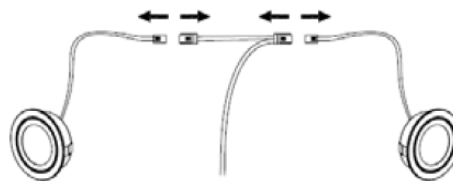

Fig. 9.2
- o Disconnect the connector as illustrated in(Fig. 9.2).